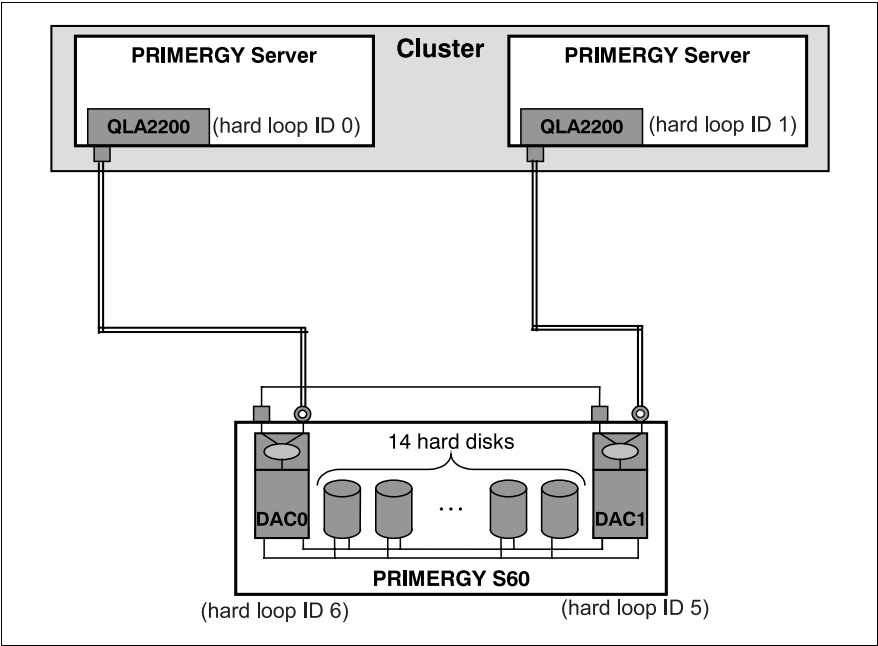

Figure 21: Entry Cluster with redundant Dual RAID Controller
- Loop IDs (see figure 21 on page 30)